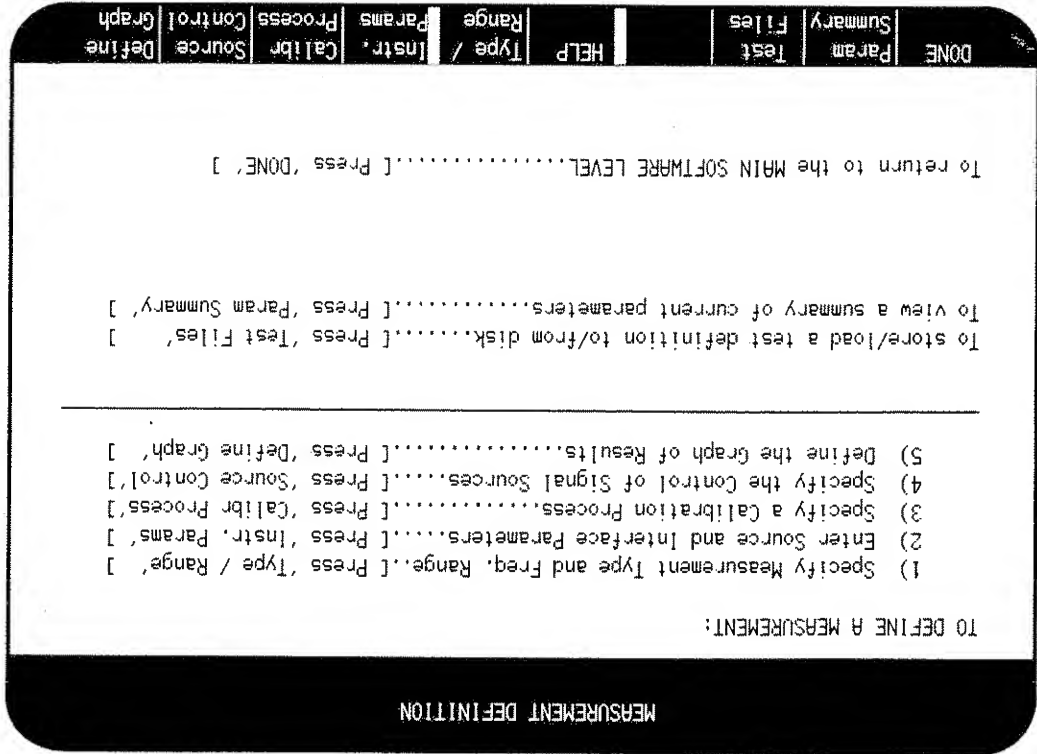

Figure 3-7. Measurement Definition Menu
5. On the HP 3048A press the **Define Measurement** softkey to obtain the Measurement Definition menu. Refer to figure 3-7.